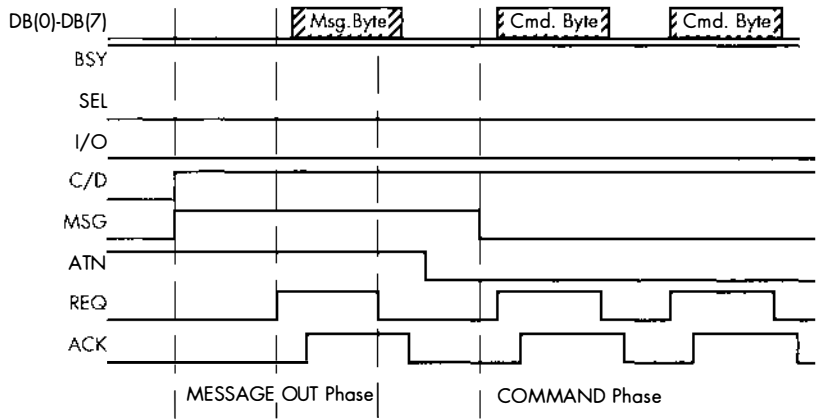

Figure A.27: MESSAGE OUT and COMMAND Phases
- MESSAGE OUT and COMMAND phases (Figure A.27)